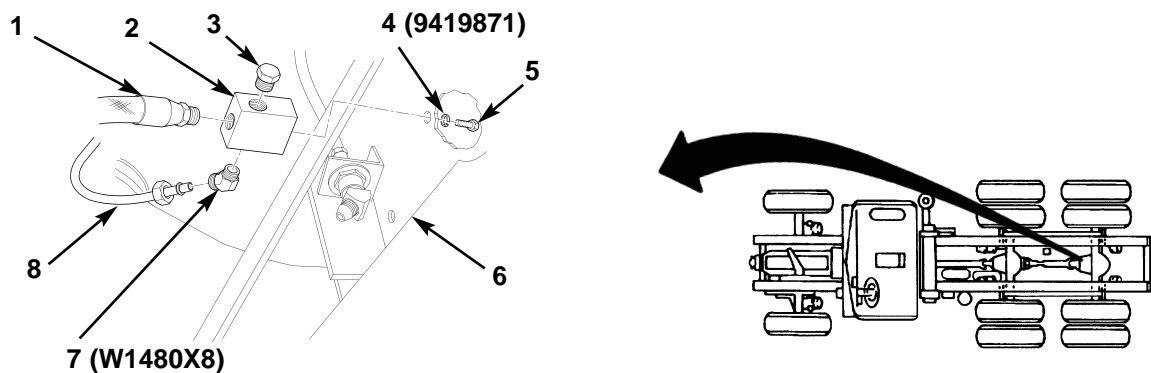

Figure 69. Installing Mountable Tee on Right Frame Rail.
73. Install elbow (figure 69, item 7) and plug (figure 69, item 3) on mountable tee (figure 69, item 2), and install mountable tee (figure 69, item 2) on top hole in right frame rail (figure 69, item 6) with new lockwasher (figure 69, item 4) and screw (figure 69, item 5).
74. Connect 1/2 in. (13 mm) red tube (figure 69, item 8) from quick-release valve (figure, 68 item 4) to elbow (figure 69, item 7), and install hose assembly (figure 69, item 1) on mountable tee (figure 69, item 2).